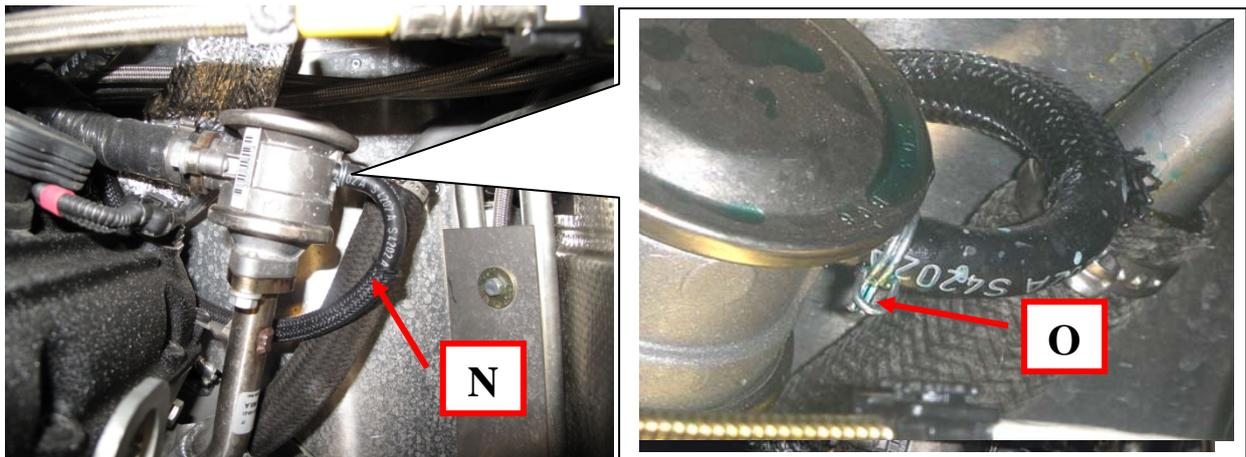

Fig. 12
- Install the EGR line (**N-Fig. 12**) on the pneumatic valve in the secondary air circuit.